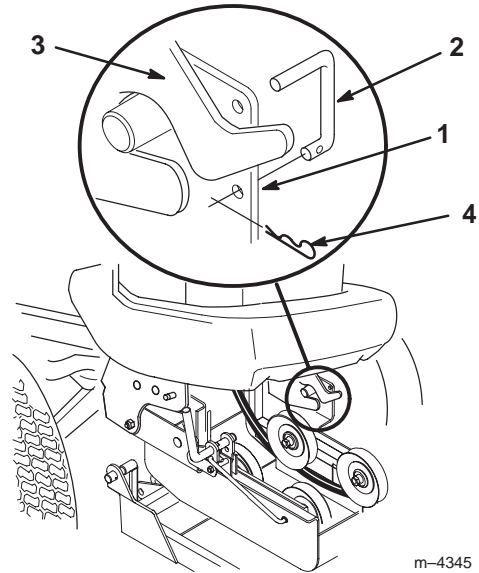

Figure 12
5. Install (2) “C” shaped pins into the locking holes of the pulley box. Secure them with (2) small hairpin cotters on the inside (Fig. 12).